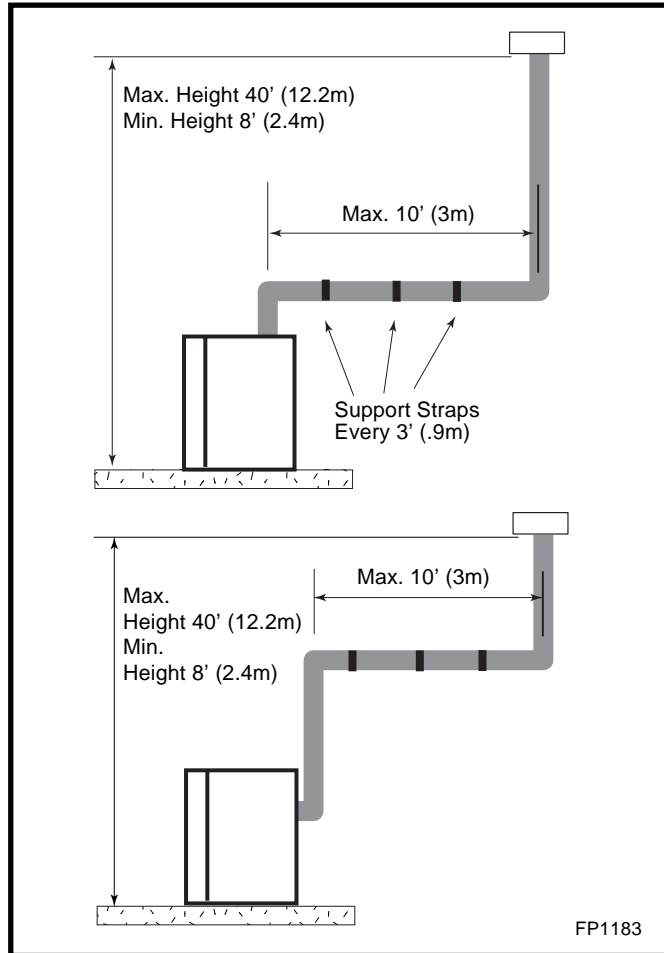

Fig. 39 Support straps for horizontal runs.
- Vertical installations up to 40' (12m) in height. Up to a 10' (3m) horizontal vent run can be installed within the vent system using a maximum of two 90° elbows. (Fig. 39)